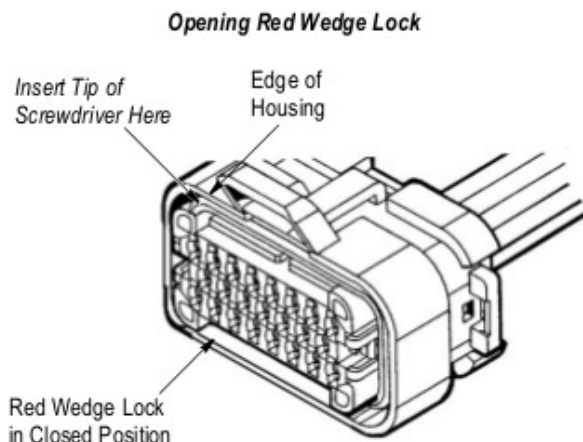

Figure 4
a. Insert the tip of a screwdriver having a blade between 2 and 5 mm [.078 and .196 in.] wide between the edge of the plug assembly housing and one corner of the red wedge lock. See Figure 4.